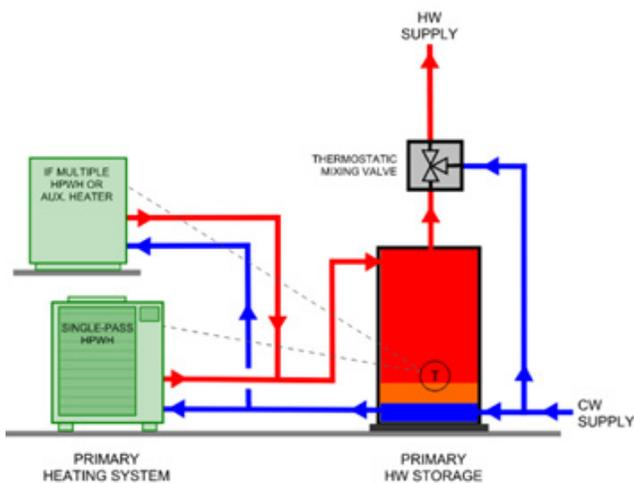

Figure 7: Single-pass primary HPWH system without hot water recirculation
- 6 **Figure 7:**
If DHW fixtures are located close enough to the DHW plant, installation of a DHW circulation loop may not be necessary. This situation is very beneficial for HPWH system design because it is no longer necessary to worry about the impact of warm return water circulation on HPWH performance. This configuration also substantially reduces pumping energy associated with a recirculation system. The HPWHs that thrive from this configuration are single-pass HPWHs and integrated HPWHs. They can be configured as illustrated in Figures 7 and 8 on this page.